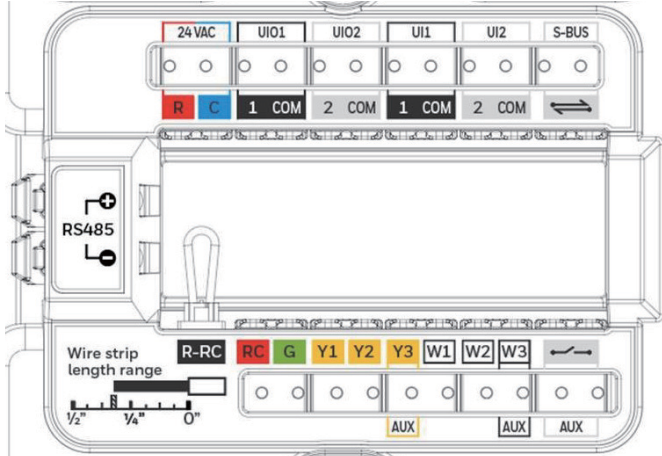

Fig. 6. Thermostat terminal assignments
1. Connect wires to the terminals. See Fig. 6 for terminal assignments and Table 1 for terminal descriptions.